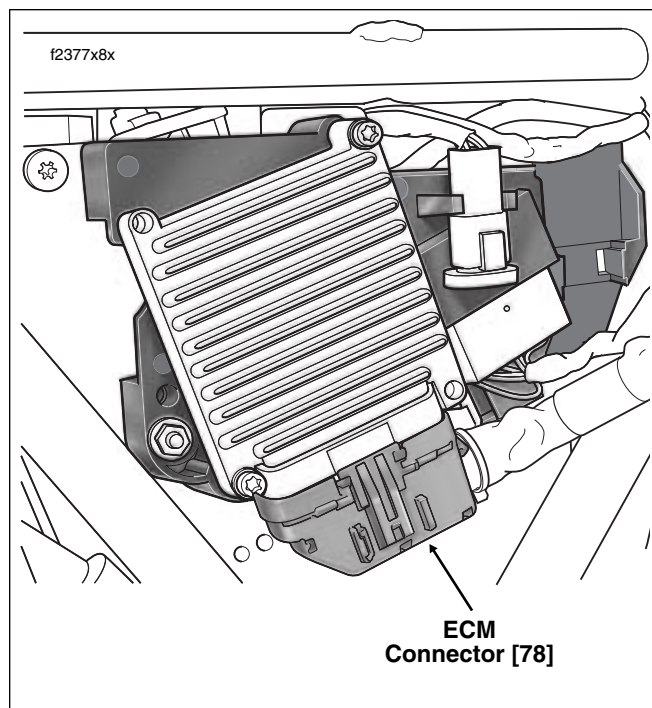

Figure 5-10. Electrical Bracket (Under Right Side Cover)
1. Remove right saddlebag and side cover. See Figure 5-10.